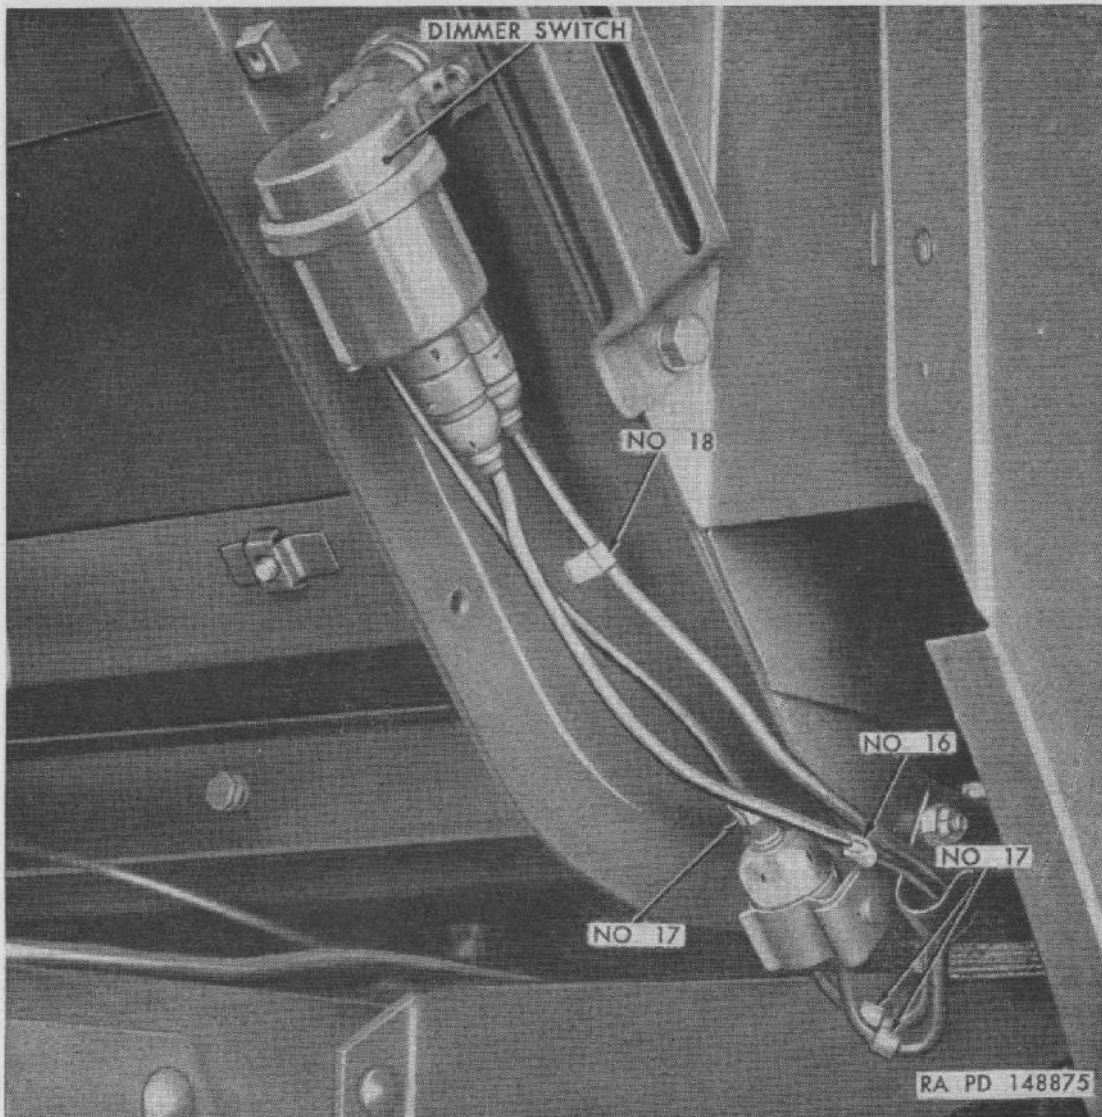

Figure 93. Dimmer switch installed.
a. GENERAL. Dimmer switch is mounted under toe board at left side (fig. 93), with switch button extending up through toe board into cab, accessible to driver's left foot. Dimmer switch selects head light high or low beam when head light circuit is energized by the main light switch.
b. DIMMER SWITCH REMOVAL (fig. 93).
- (1) Disengage the two cable connector from clip on cab floor sill. Disconnect harness cables from switch cable and from terminals at switch.
- (2) From inside cab, remove two screws and lock washers attaching dimmer switch to under side of toe board and remove switch.
c. DIMMER SWITCH INSTALLATION (fig. 93).
- (1) Position switch under toe board, with switch plunger extending up through toe board. Attach switch to toe board with two screws and lock washers, installed from inside cab.
- (2) Connect the two-cable harness connector (cables No. 17) to switch cable connector; engage connector in clip on floor sill. Connect harness cable No. 16 to switch BATT terminal, and connect cable No. 18 to switch low-beam (L) terminal.